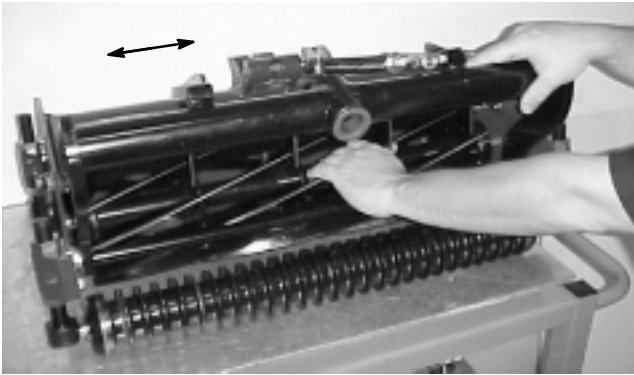

Figure 17
2. Hold on to the reel shaft and try to move the reel assembly side to side (Fig. 17).